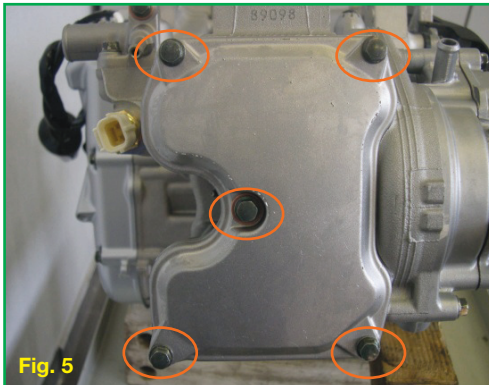

Fig. 5
- Remove the tappets cover (no. 5 M6 screws) (Fig. 5).
- Refit the valve cover (Fig. 5) with the copper gasket under the centre bolt.